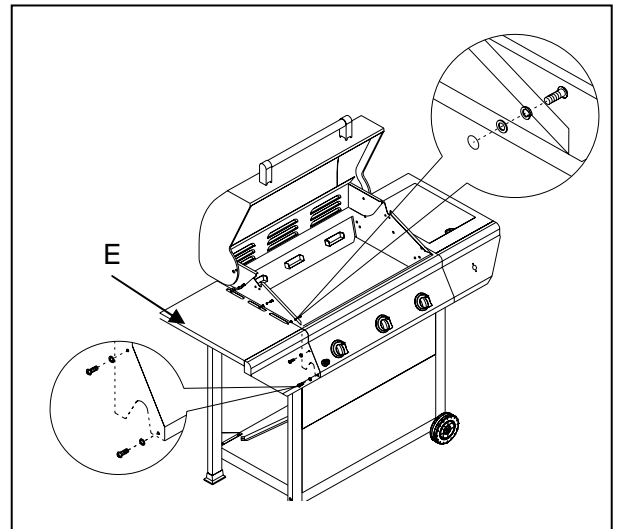

Fig. 14
- a) Remove the two 4mm screws with locking washers that are pre-attached to the valve. Then place the Bezel (L) on the Side Burner Shelf (D) control panel. From underneath, insert the side burner valve into the Side Burner Shelf (D) control panel and Bezel (L). Align the holes in the Bezel (L) with holes in the valve and attach with two 4mm screws. The two screws hold the bezel, control panel, and valve together. As shown in Fig. 14.